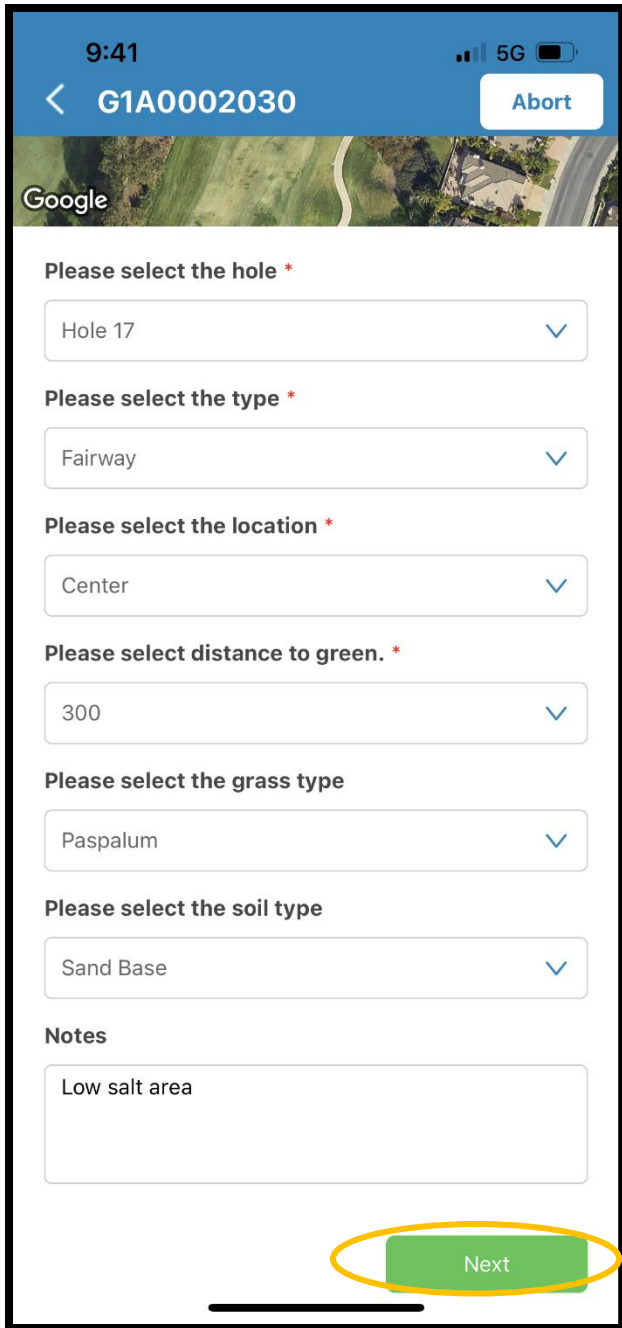

Figure 13
- g. On the next Provisioning screen, collect information on the Sensor using the drop-down lists. Items marked with “\*” are required fields (Figure 13). Collected information includes the hole number, location, approximate distance to green, type of grass and soil. When complete, tap the Next button.